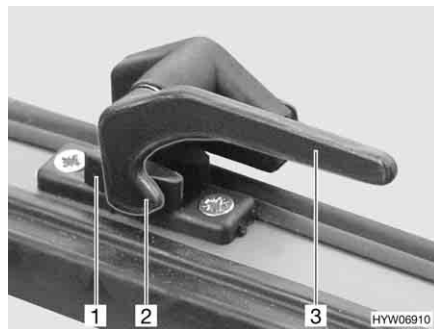

Fig. 64 Catch lever in "closed" position
- Turn all catch levers (Fig. 64,3) a quarter turn towards the centre of the skylight.
- Turn all catch levers (Fig. 64,3) a quarter turn towards the frame. The locking catch (Fig. 64,2) is located on the inside of the skylight lock (Fig. 64,1).
- "Firmly closed" (Fig. 64)